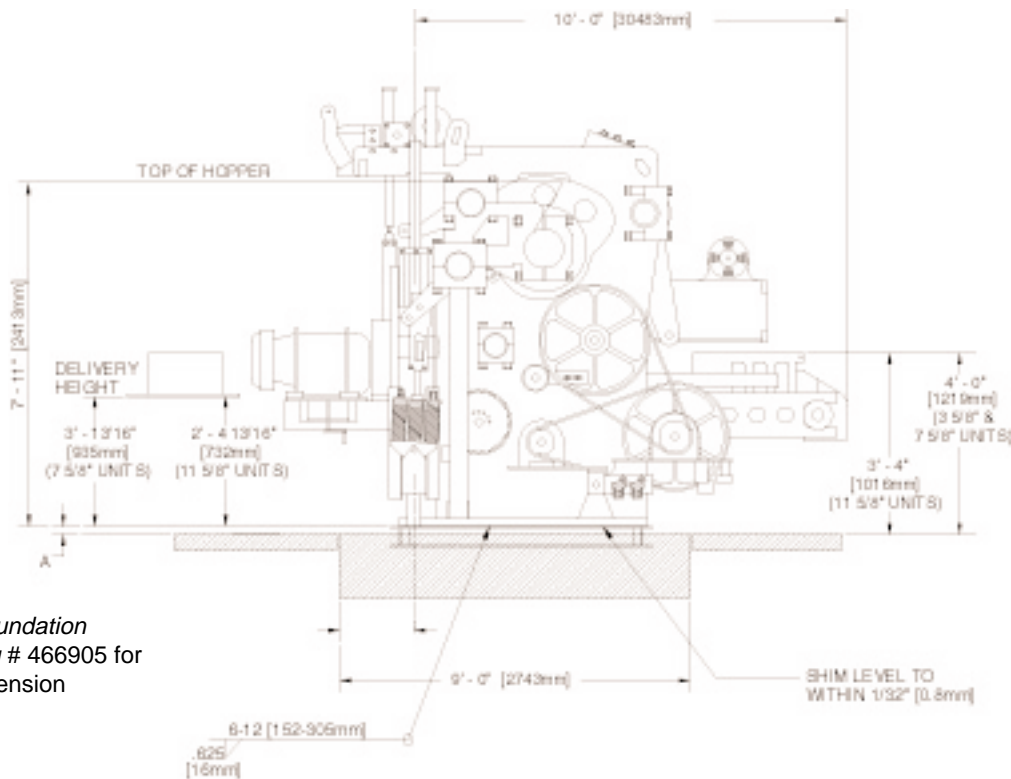

Figure 1.7 RIGHT SIDE ELEVATION.
misalignment. Refer to figures 1.7 and 1.8.
6. Weld machine to steel with 5/8" [16mm] skip weld. Make sure machine stays aligned with center line during welding. Weld over the shims. Refer to figures 1.7 and 1.8.